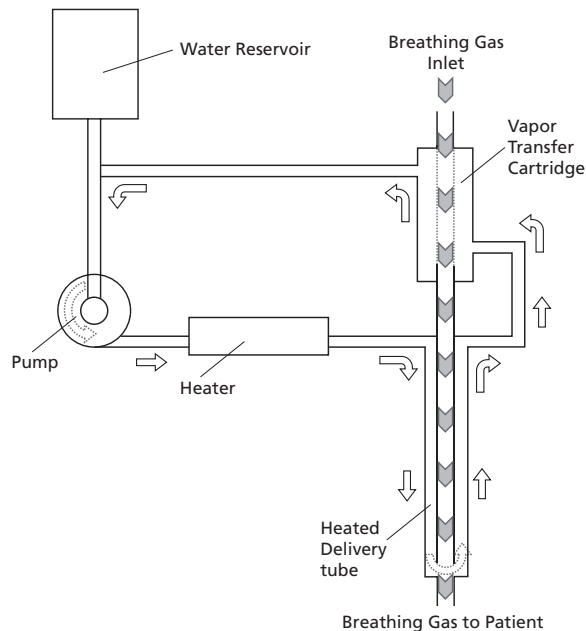

Fig. 1 Simplified System Diagram
The warmed humidified gas stream reaches the patient via a patented triple lumen Patient Delivery Tube. Humidified gas flow is delivered through the center lumen. The outer lumens contain water which is warmed via an internal heater and propelled through the system via an internal pump (See schematic, fig. 1). This maintains breathing gas temperature and minimizes condensation. The final patient interface is a Vapotherm nasal cannula or approved interface configured to minimize resistance and heat loss.
4. Remove protective caps from luer side ports of cartridge (Fig. 1).
2. Unclamp the Vapotherm Spike Set (VSS-1) (Fig. 1).